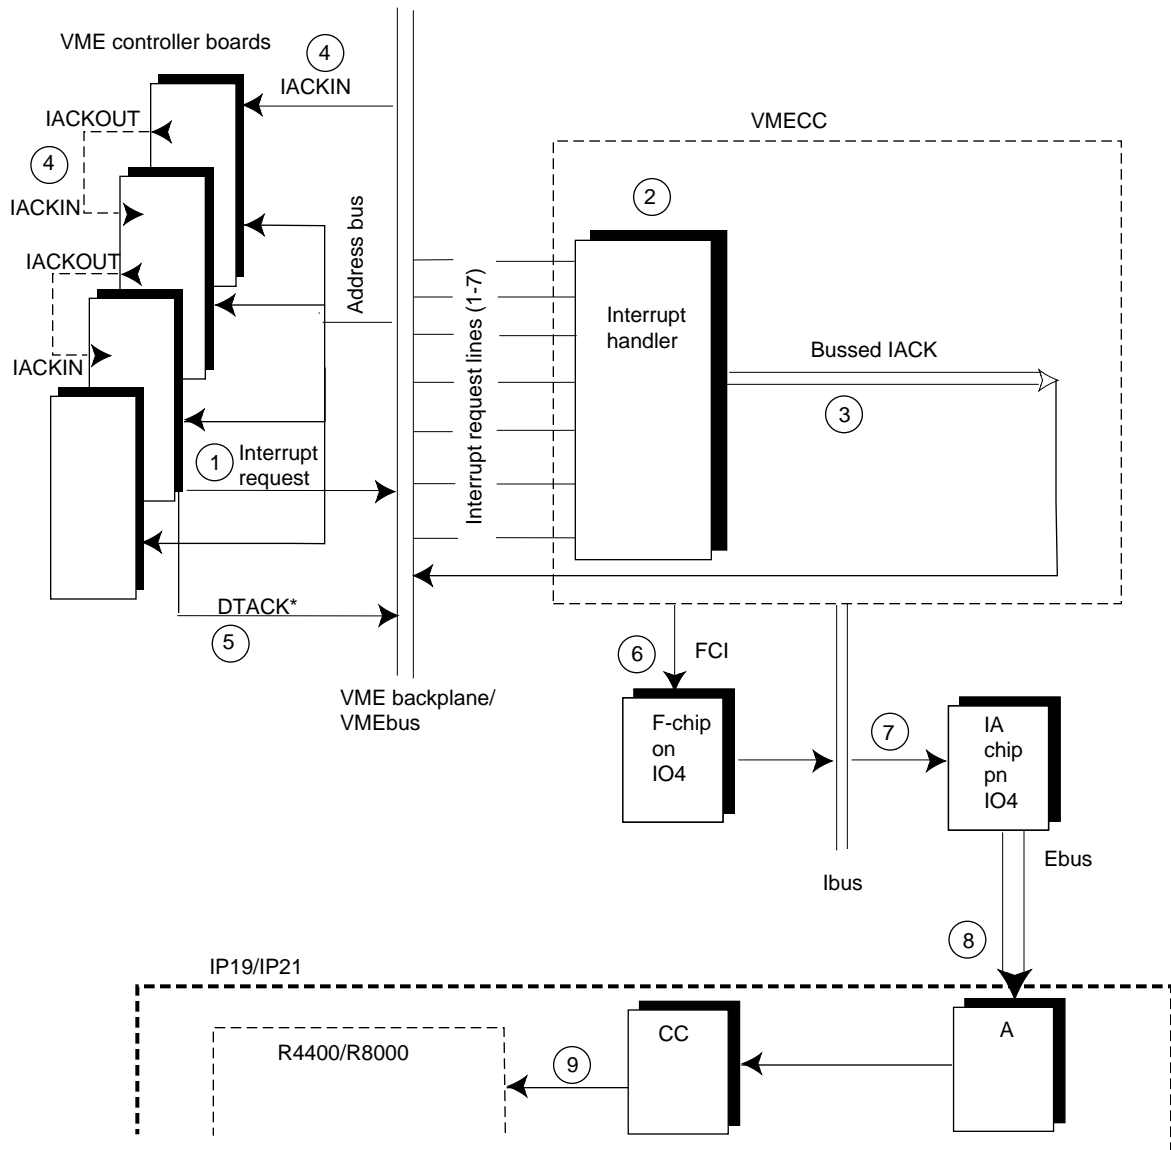

Figure E-5 VMEbus Interrupt Generation
The following and Figure E-5 outline how a VMEbus interrupt is generated.
4. If multiple VME boards are present, the bussed IACK signal is sent to the first VME controller as an IACKIN. As shown in Figure E-5, since the first controller is not the requesting master, it passes the IACKIN signal to the next board (in the daisy chain) as IACKOUT.